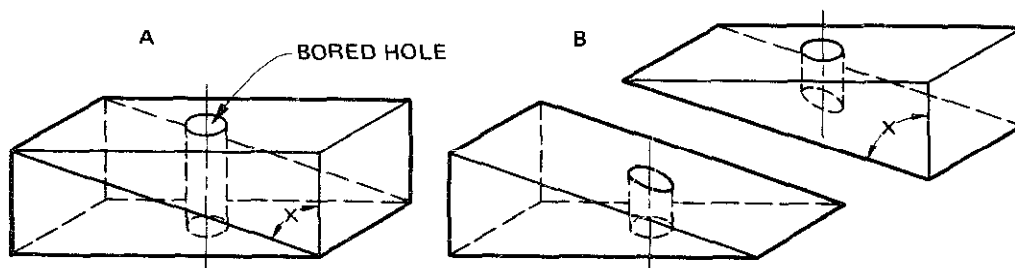

Fig. 10-37 Guide for boring. \*
1. Bore a vertical hole through a block of wood using the same size auger bit that will be used in making the finished hole. See A, figure 10-37.
2. Lay out angle X (A, figure 10-37), which is the guide angle of the hole, and saw off the bottom of the block.